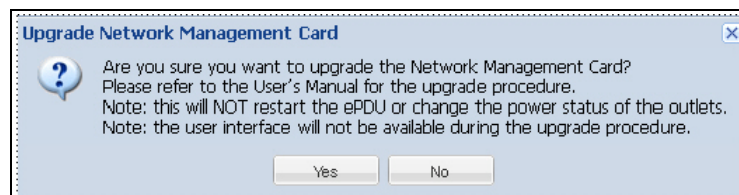

Figure 80. Upgrade Network Management Card Confirmation Window
8. Click **Yes** in the confirmation window (see Figure 80).